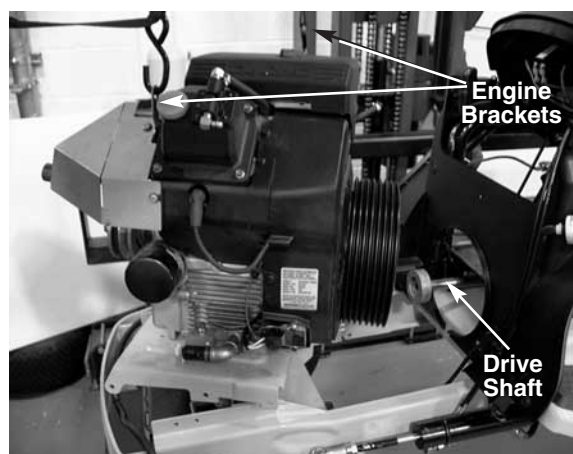

FIGURE 12.
26. Secure the engine from above using the engine brackets. See figure 12.
28. Slowly raise the engine and mounting plate from the unit while a helper guides the drive shaft out of the flywheel screen. See figure 12.